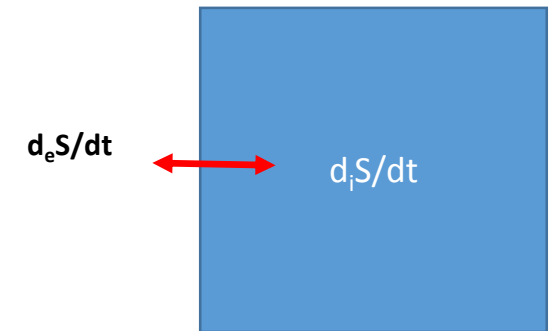

Fig.5. Schematic presentation of the entropy analysis in irreversible thermodynamics
**1.2.B** A new entropy treatment  $S = S_i + S_e$ , where  $S_i$  means internal entropy of the sub-system  $S_e$  - means external entropy (Fig.5). Consequently, new parameters are introduced: